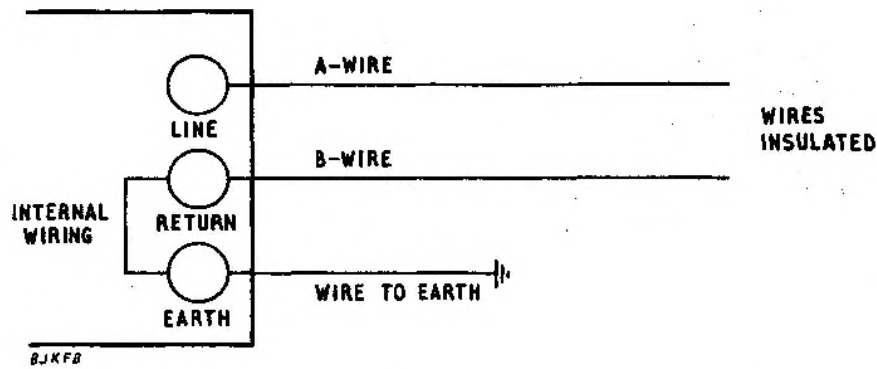

FIG 2 - INSULATION RESISTANCE OF A WIRE; B WIRE EARTHED
4.2 **Wire-to-Earth Insulation Test** (see Fig 2) Connect the A and B wires to the LINE and RETURN terminals, and the Earth terminal to earth. Test as described in para 4.1 to measure the insulation resistance of the A wire with the B wire earthed. To measure the insulation resistance to earth of the B wire, reverse the connexions to the terminals. For a single wire to earth measurement, connect the wire to the line terminal.